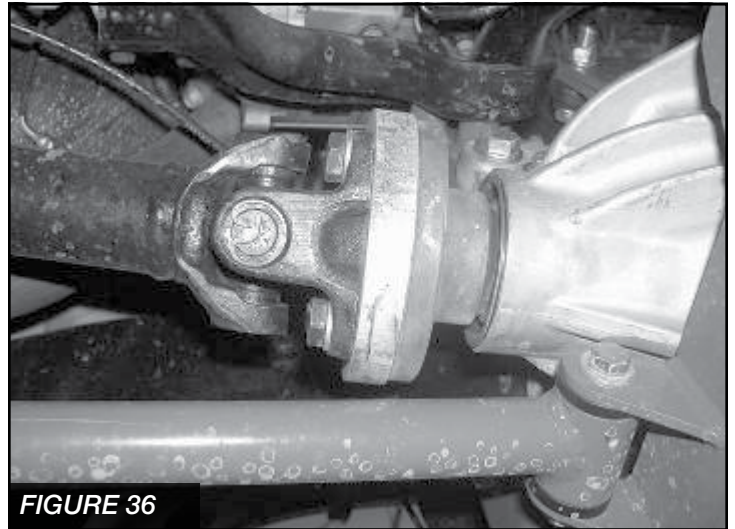

FIGURE 36
46. Locate FT44029 (09-11) or FT44203 (2012) front drive shaft spacer. Using the supplied thread-locking compound, 12mm bolts, and washer, attach the spacer and drive shaft to the front differential. Torque to 135 ft. lbs. **SEE FIGURE 36**